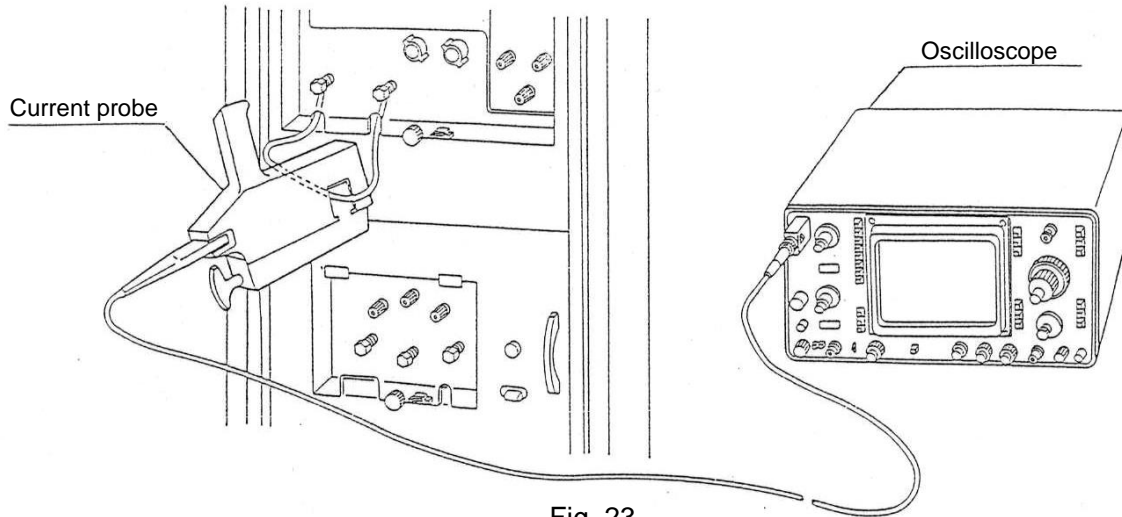

Fig. 23
3. Make connections as shown in Fig. 23 and close the acrylic door.